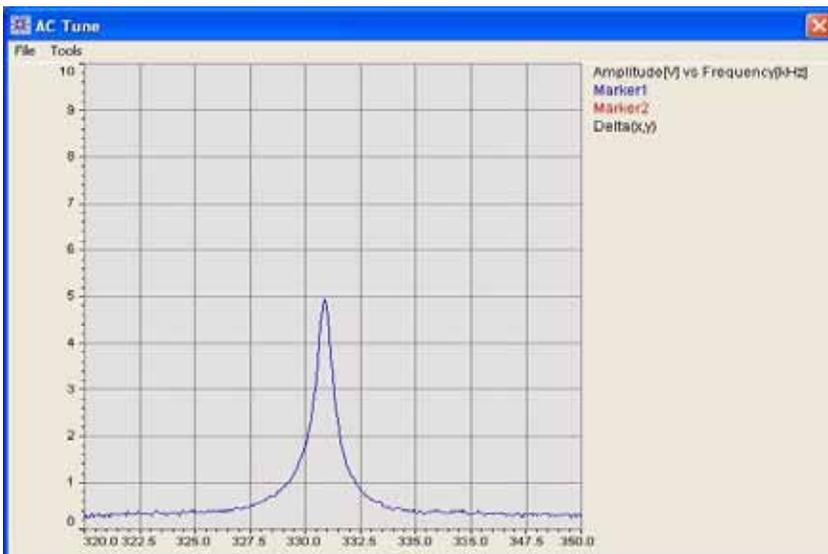

Figure 72 AC Mode Tune window with resonance peak at ~331 MHz
- 7 Choose **Controls > AC Mode Tune** to open the **AC Mode Tune** window (Figure 72).
- 11 Click the **Auto Tune** button. The system will sweep several times through the range of frequencies, locating the peak oscillation amplitude within the range (Figure 72). The AC signal oscillation will be set to this value, taking into account the specified Offset.